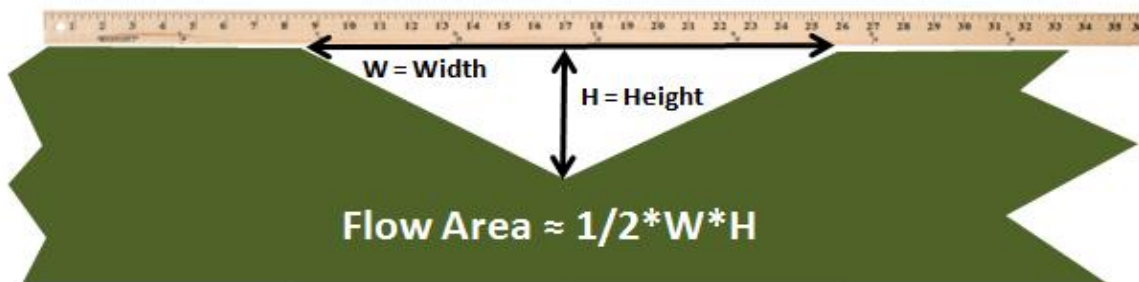

Figure 1 Simple Method - Flow Area Calculation
Step 2: Where flow exits the site, determine existing flow area of the exiting drainage channels on your site using the schematic and equation below in Figure 1. Mark on the plans where flow area was determined.
Step 3: Once flow area has been calculated, determine the impervious area (IA) of the project and the nearest lot area to determine the required flow area for your site.